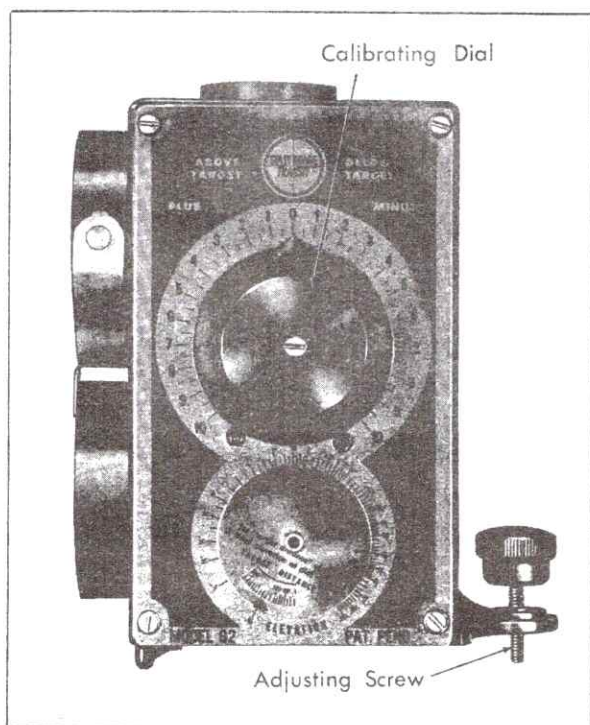

Fig. 12-4 Adjusting Transit
3. Adjust screw on back of transit until split image is aligned, Fig. 12-4.
4. Turn dial on side of transit until bubble is centered in level vial, Fig. 12-4.